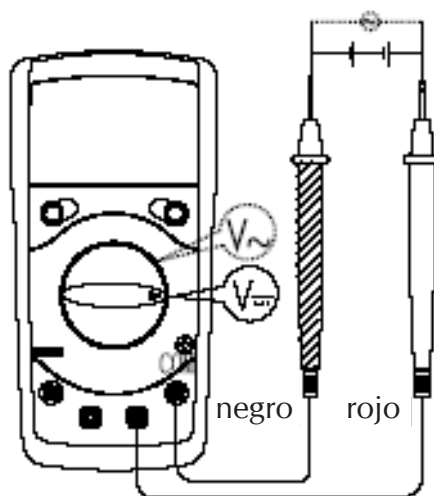

figura 3
A. MEDICION DE TENSION DC (VEA FIGURA 3)